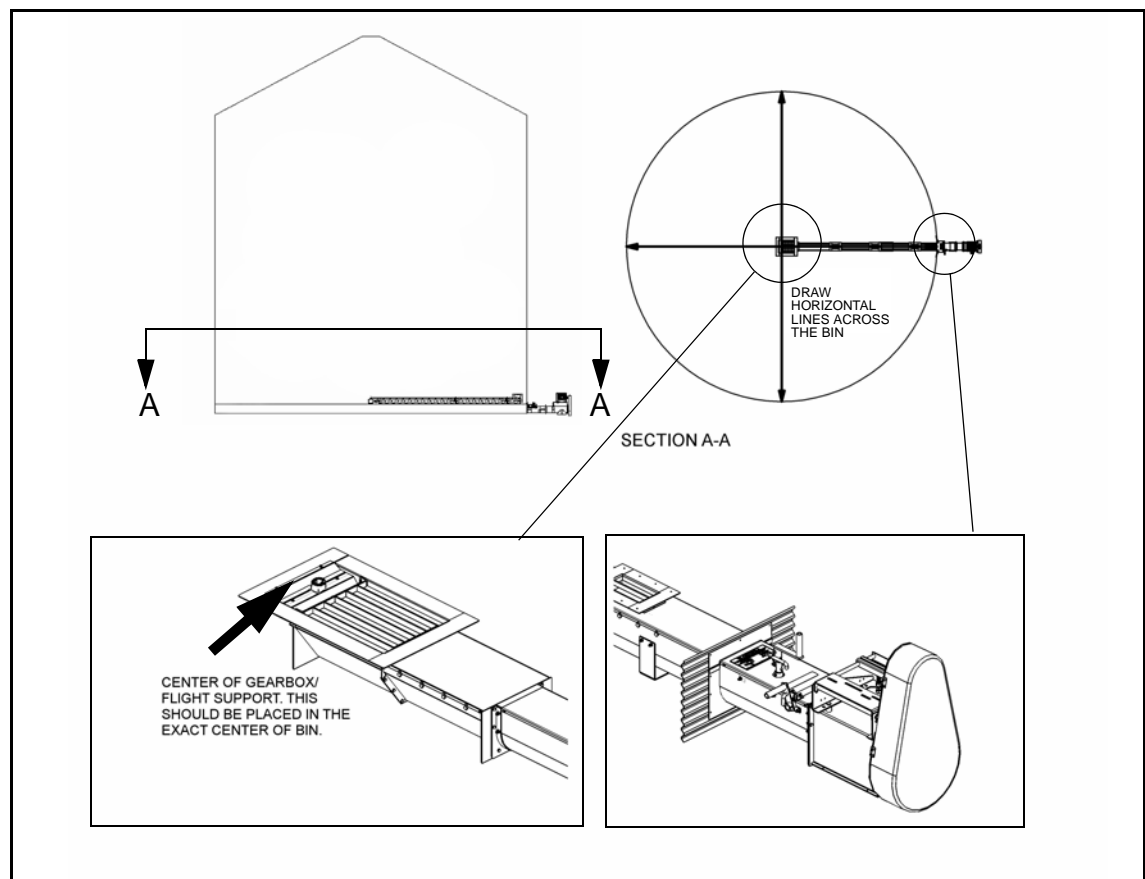

Figure 4.1
1. Find the exact center of the bin by measuring horizontal lines across the bin (Figure 4.1). Place the center of gearbox shaft at the intersection of these two lines.